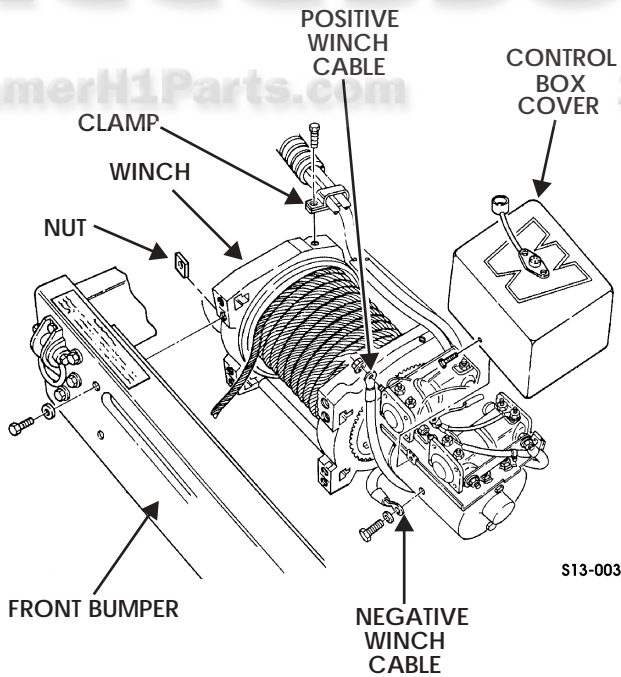

Figure 13-3: Winch and Winch Cables
4. Remove four nuts, washers, capscrews, and winch from front bumper (Figure 13-3).
1. Install positive winch cable on winch with locknut (Figure 13-3).